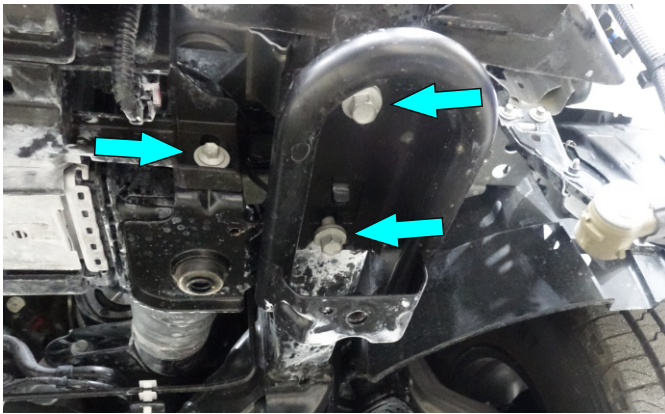

Fig.27
26. Remove factory recovery point from left side of vehicle (fig.27).